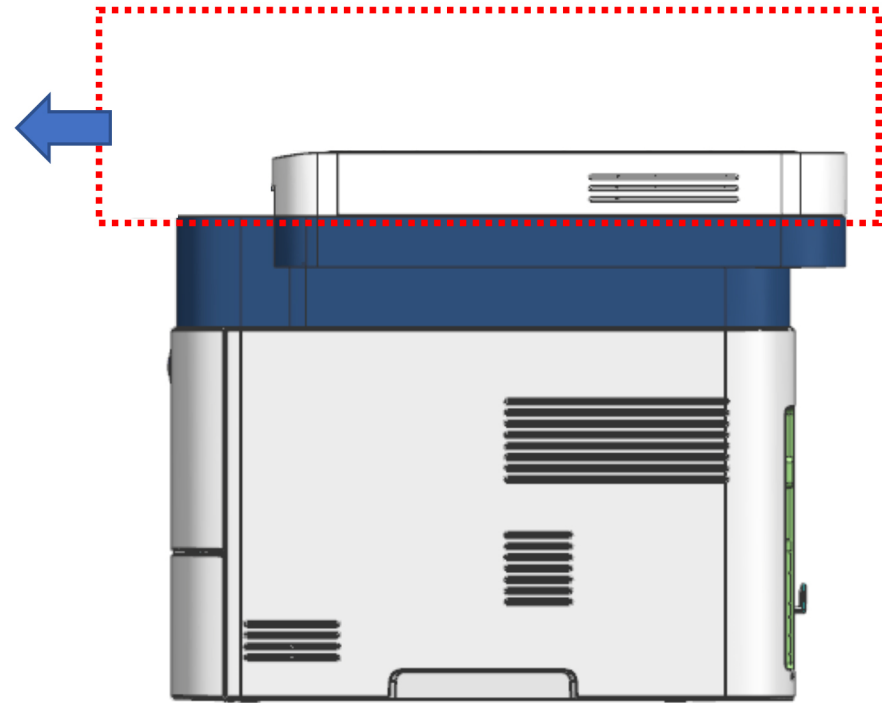

Figure 4 Scanner removal
8. Slide the Scanner to the front, then lift and remove the Scanner from the IOT routing the wire harnesses through the Middle Cover and out, Figure 4.